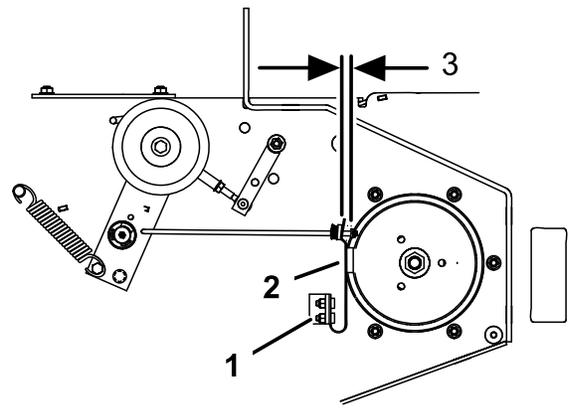

Figure 53
3. If necessary, adjust the spring mounting bolts so that the blade brake pad rubs against both sides of the pulley groove (Figure 53).
4. Adjust the nut at the end of the blade brake rod until there is 1/8-3/16 inch (3 mm -5 mm) between the nut and spacer (Figure 53).